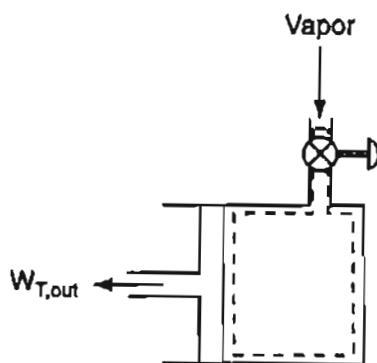

Figure SAT24.2P1
1. Examine the process displayed in Figure SAT24.2P1.